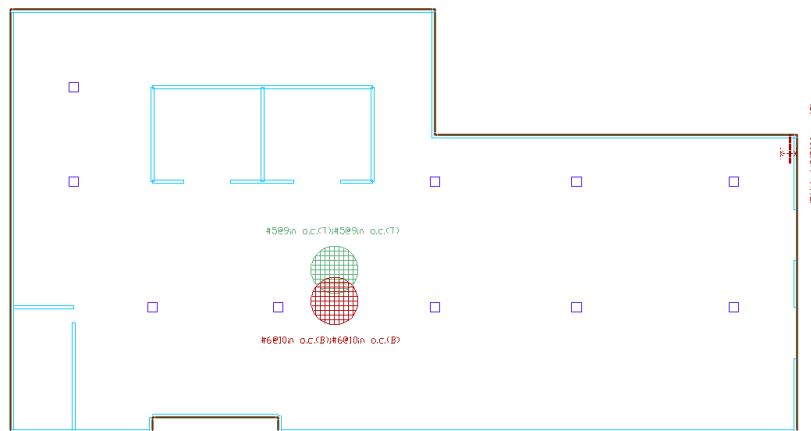

Figure 6.8-14 - Rebar in Excess of Base Rebar
- After introducing new base reinforcing, the slab needs the design sections to be redesigned and the reinforcement layout must be generated again. The program will produce a new rebar drawing and display any additional rebar to the base reinforcing where required as shown in **Figure 6.8-14**.